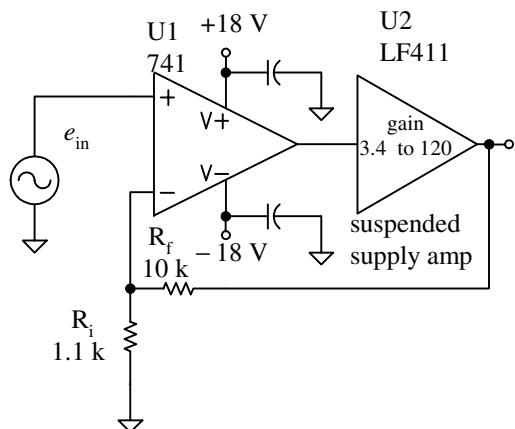

Figure 1-33 Composite amplifier with the suspended supply amp
The suspended supply amplifier can output as large a voltage as your application needs. It only requires an op amp, seven resistors, a capacitor, two transistors, and two zener diodes. All told, that is only a few dollars worth of parts. But, even if you use expensive, precision resistors, the results vary widely. This is just not an acceptable result for a circuit you plan to use in production. The solution is to enclose the suspended supply amplifier within the negative feedback loop of a composite amplifier, as shown in Figure 1-33.
- Calculate all voltages and currents for the circuit in Figure 1-33, assuming $e_{in} = 4.5 \text{ V}_p$ and a 3.4 gain from the suspended supply amplifier.